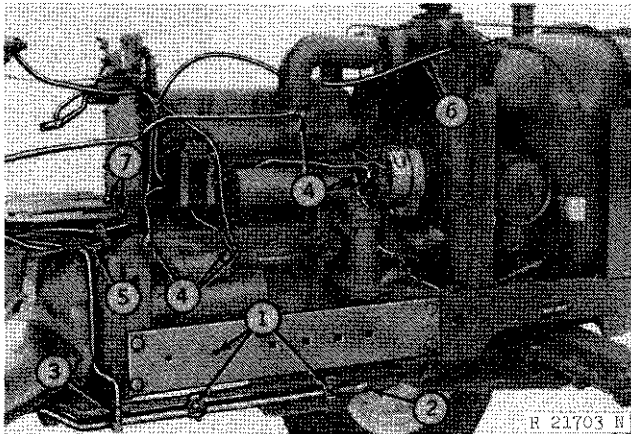

Fig. 1-Right-Hand Separation Procedures
1. Remove clamps securing hydraulic oil pipes (Fig. 1). Remove side frames (if used).